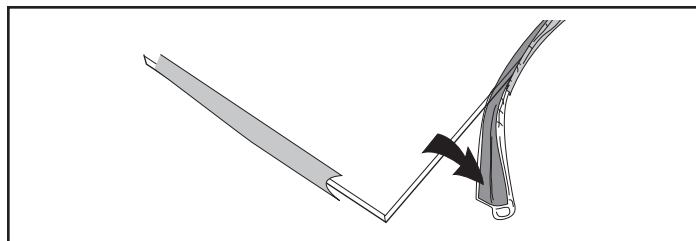

Figure 82 - Wrap the gasket material around the outside edge of the glass.
2. Remove the safety barrier and lift the stove front up, then swing the bottom out to disengage it from the heater shell, Figure 82.
3. Starting on a long edge, remove about 6" of the protective paper strip and apply the flat adhesive face of the gasket around the outside-facing edge of the panel. Continue around the panel, applying about 6" at a time and being careful to not stretch the material. Do not overlap the gasket ends, Figure 82.